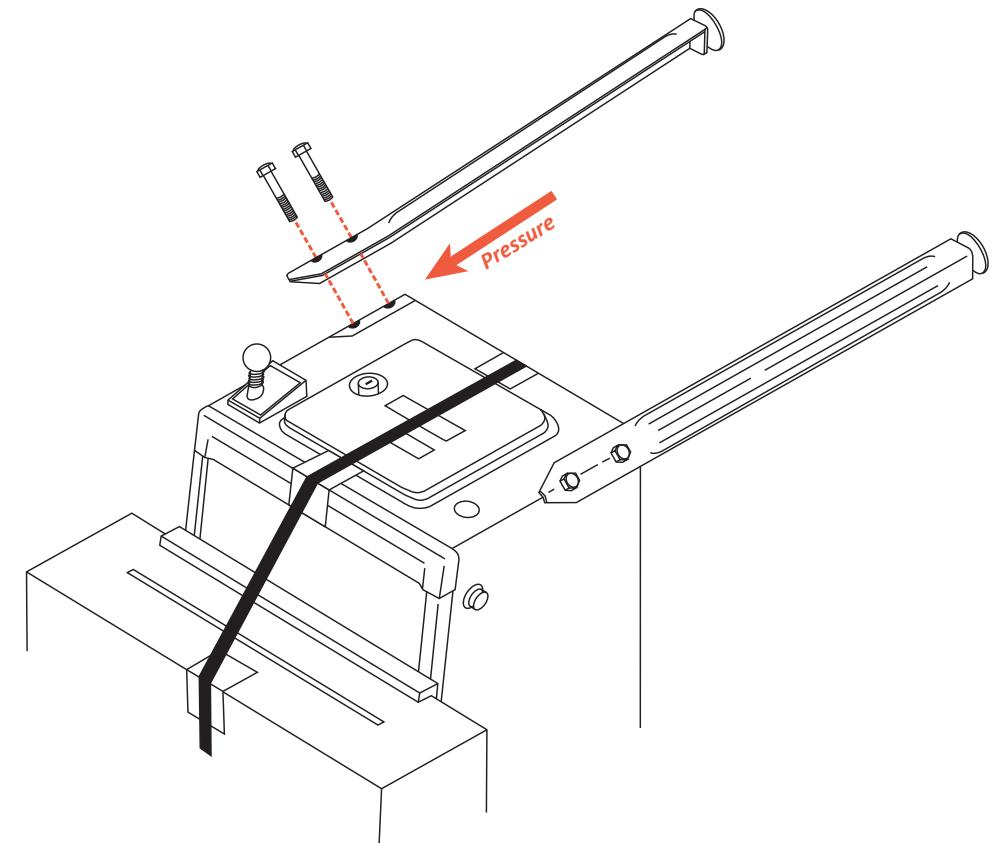

Figure A5. Installing the front legs and cabinet protectors.
5) Locate the eight acorn-head leg bolts in the loose parts. Thread 2 leg bolts through each leg and attach it to the cabinet (see figure A5). Using a 5/8" socket and ratchet or a 5/8" wrench, tighten the bolts firmly, while maintaining pressure (in the direction of the red arrow) on each leg.